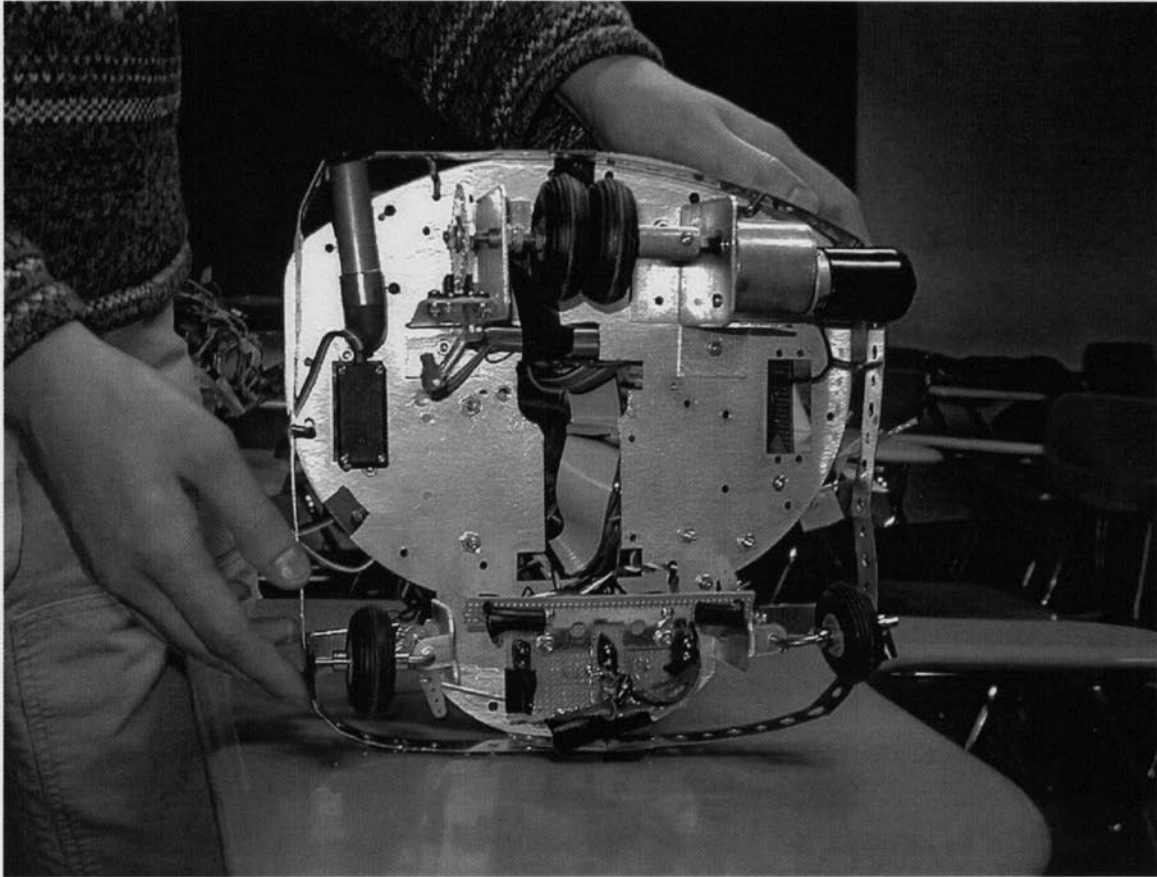

Fig. 2 – ARobot Base
- Connect one end of the 10-pin ribbon cable to the J8 header on the ARobot controller board. The other end of the cable has four wires that will be used. Connect the small green connector with blue and green wires to the two inside pins on the wheel encoder. Connect the small green connector with yellow and orange wires to the outside two pins on the wheel encoder. The ARobot base can be seen in Fig. 2.